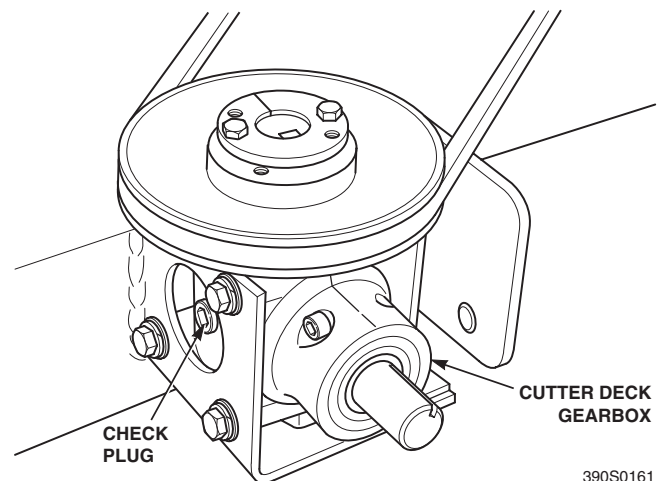

Figure 7-12 Cutter Deck Gearbox
The fluid level in the cutter deck gearbox (Figure 7-12) should be checked after every 100 hours of operation or bi-weekly, whichever occurs first.
2. Clean and remove the check plug from the side of the gearbox (See Figure 7-12). Visually check that the lubricant level is up to the bottom edge of the check plug hole. If lubricant is low, add SAE 80/90 lubricant through the check plug hole in the gearbox until it is level with the bottom of the check plug hole. Install the check plug and tighten securely.